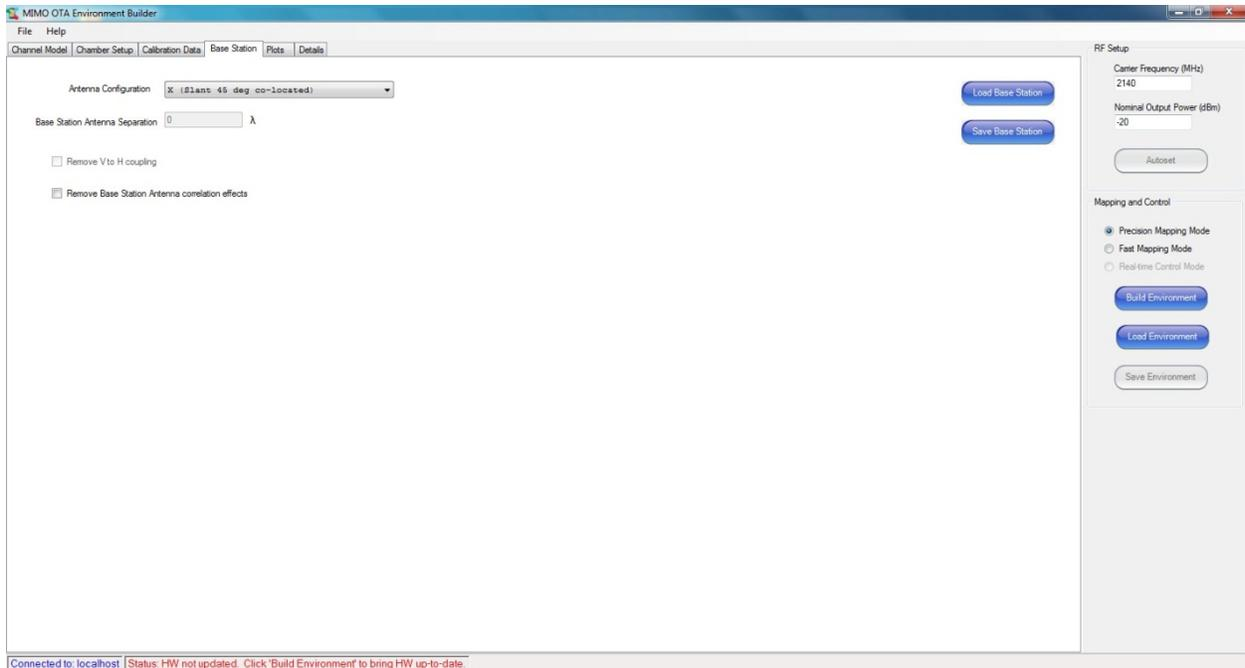

Figure 3-17: Base Station Tab
- Under the *Base Station* tab, select the desired **Antenna Configuration**, as shown in Figure 3-17.